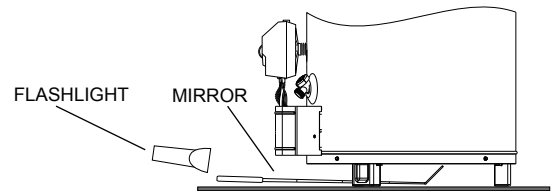

**FIGURE 28.**
5. Pull the pilot tube from the pilot assembly (Figure 28). IMPORTANT: Be careful not to bend or alter the position of the pilot assembly components.